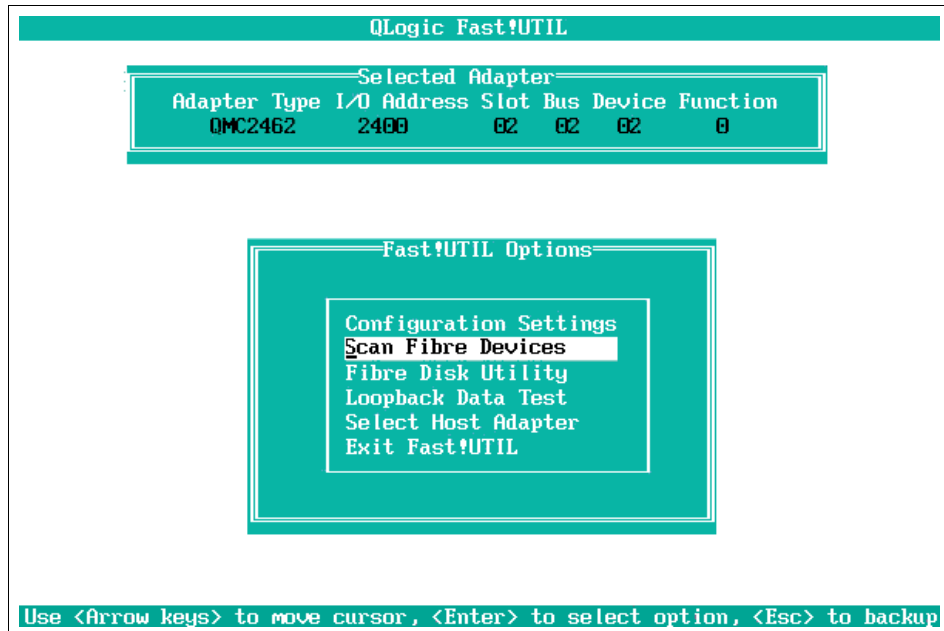

Figure 9-6 Scan Fibre Devices window
4. Ensure that the Host Adapter BIOS is Enabled, the Hard Loop ID is set to 125, and Data Rate is set to 2 (auto detect). Press Enter to change settings and Esc to exit. Next, you will see a window similar to Figure 9-6 on page 282.
- Hit Esc (Figure 9-6), then scan the Fibre Channel devices to register it with the switch name server for zoning and with storage.